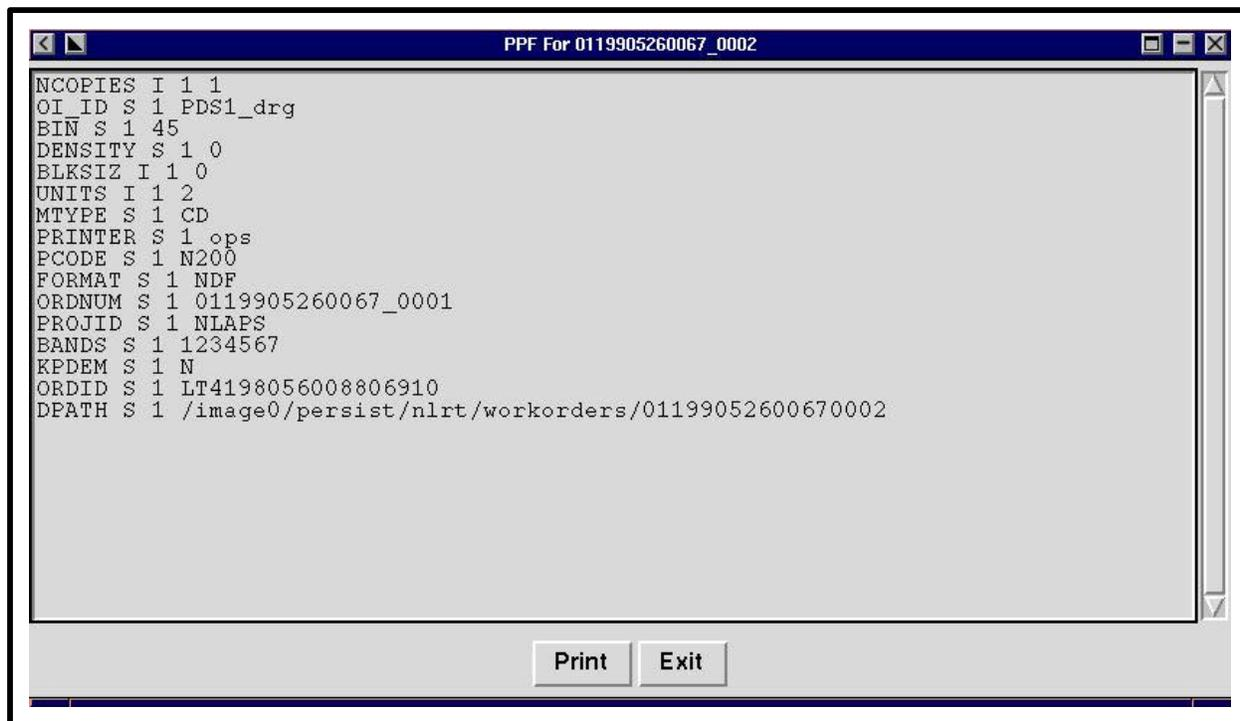

Figure 45. Example of a PDS Job Log
- The PPF file for the selected job is displayed in a text window(refer to the example in Figure 45).